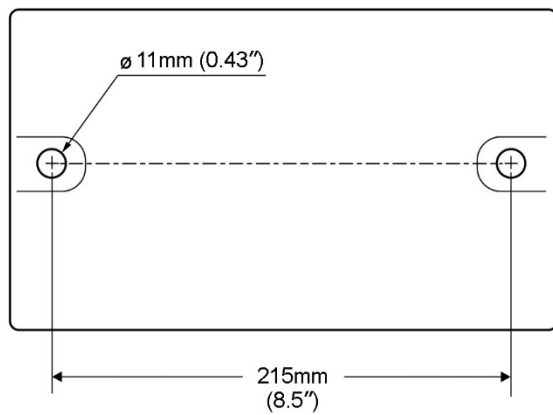

Figure 1: **IBG-8** hole centers
1. Align the mounting holes on the grinder with predrilled holes in a bench or grinder stand. Figures 1,2,3 show hole centers for mounting.
1. Assemble the left spark guard and eye shield bracket using Figure 1 as a guide. Make sure spark guard and bracket are both marked **L**.